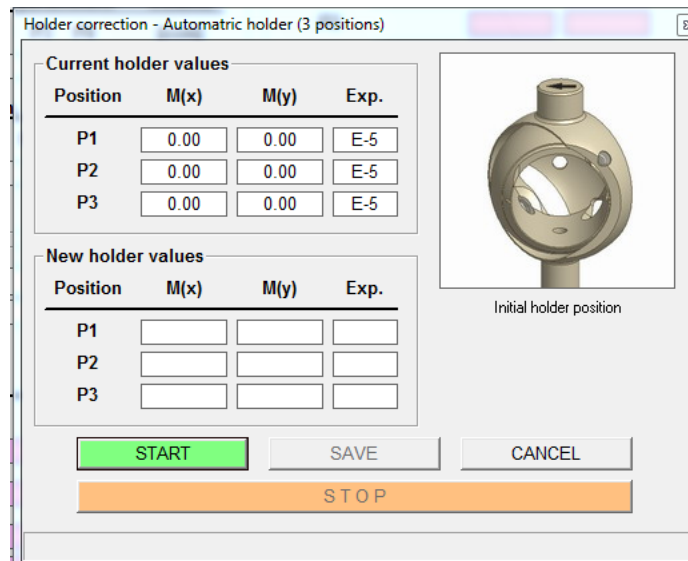

Figure 5: Holder Correction dialog box.
1. Click **Execute > Holder Correction**. The Holder Correction dialogue box (*Figure 5*) will pop up.